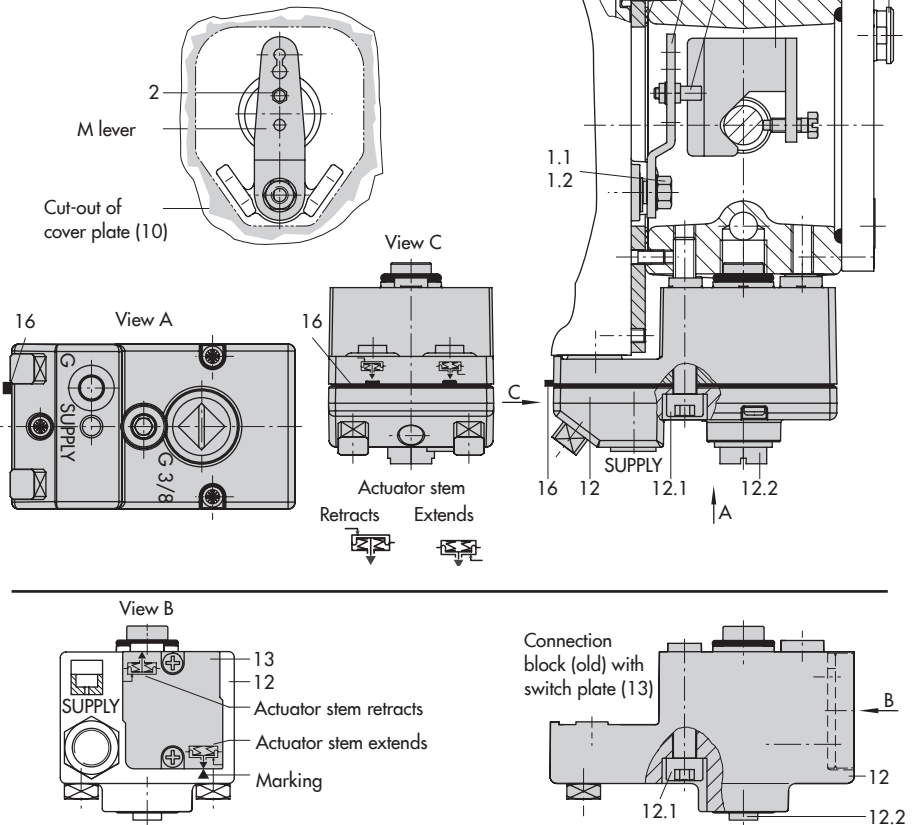

Fig. 4: Direct attachment – Signal pressure connection for Type 3277 Actuator with 175 to 750 cm²
Actuators with 175 to 750 cm² effective areas (see Fig. 4)
1. Place follower clamp (3) on the actuator stem, align it and screw tight so that the mounting screw is located in the groove of the actuator stem.
2. Mount cover plate (10) with narrow side of the cut-out (Fig. 4, on the left) pointing towards the signal pressure connection. Make sure that the gasket (14) points towards the actuator yoke.
3. For actuators with 355, 700 or 750 cm², remove the follower pin (2) on the **M** lever (1) on the back of the positioner from pin position **35**, reposition it in the hole for pin position **50** and screw tight. For actuators 175, 240 and 350 cm² with 15 mm travel, keep the follower pin (2) in pin position **35**.
4. Insert formed seal (15) into the groove of the positioner housing.
5. Place positioner on the cover plate in such a manner that the follower pin (2) rests on the top of the follower clamp (3).
6. Make sure that the tip of the gasket (16) projecting from the side of the connection block is positioned to match the actuator symbol for the actuator's fail-safe action "actuator stem extends" or "actuator stem retracts". If this is not the case, unscrew the three fastening screws and lift off the cover. Turn the gasket (16) by 180° and re-insert it. The old connection block version (Fig. 4, bottom) requires the switch plate (13) to be turned to align the actuator symbol with the arrow marking.
7. Place the connection block (12) with the associated seals against the positioner and the actuator yoke and fasten using the screw (12.1). For actuators with fail-safe action "actuator stem retracts", additionally remove the stopper (12.2) and mount the external signal pressure pipe.
8. Mount cover (11) on the other side. Make sure that the vent plug is located at the bottom when the control valve is installed to allow any condensed water that collects to drain off.